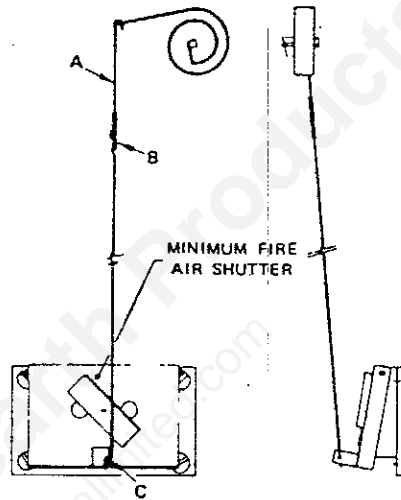

FIG. 17
- A. To increase the amount of heat at a "HIGH" setting, adjust the wire linkage to increase the draft damper opening (Fig. 17).
The burning rate at the low setting can be further adjusted by opening or closing the minimum fire air shutter (Fig. 17) on the draft control door.